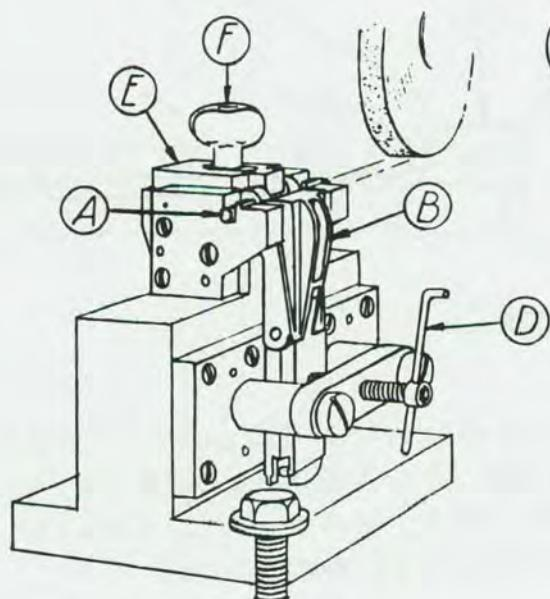

FIG. 2
⑦ IT IS IMPORTANT TO SECURE THE ASSEMBLY (B), FIG. 2, WITH THE SCREW (D) FIRST. THEN PLACE PLATE (E) ON PIN (A) AS SHOWN AND SECURE WITH THUMB SCREW (F). GRIND OFF ONLY ENOUGH FOR BOLT ASSEMBLY (B) TO BE CORRECT, ACCORDING TO OPERATION 5.